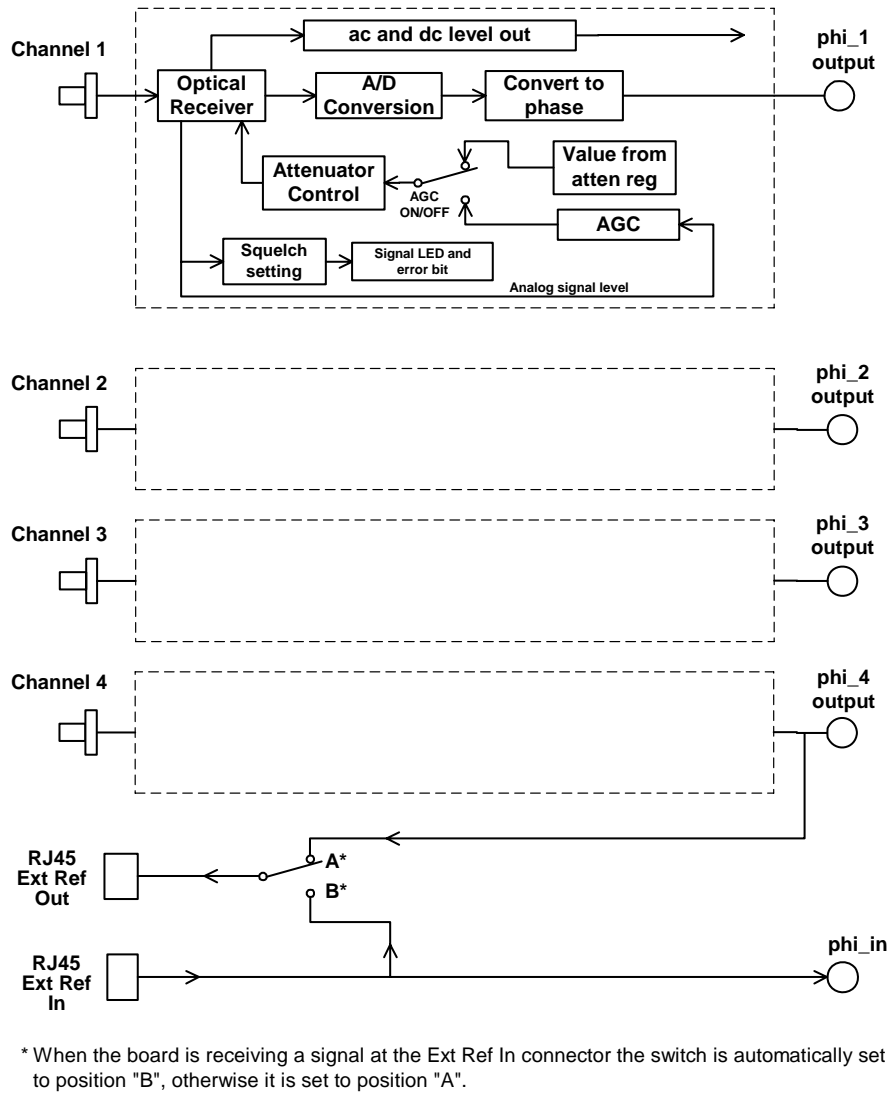
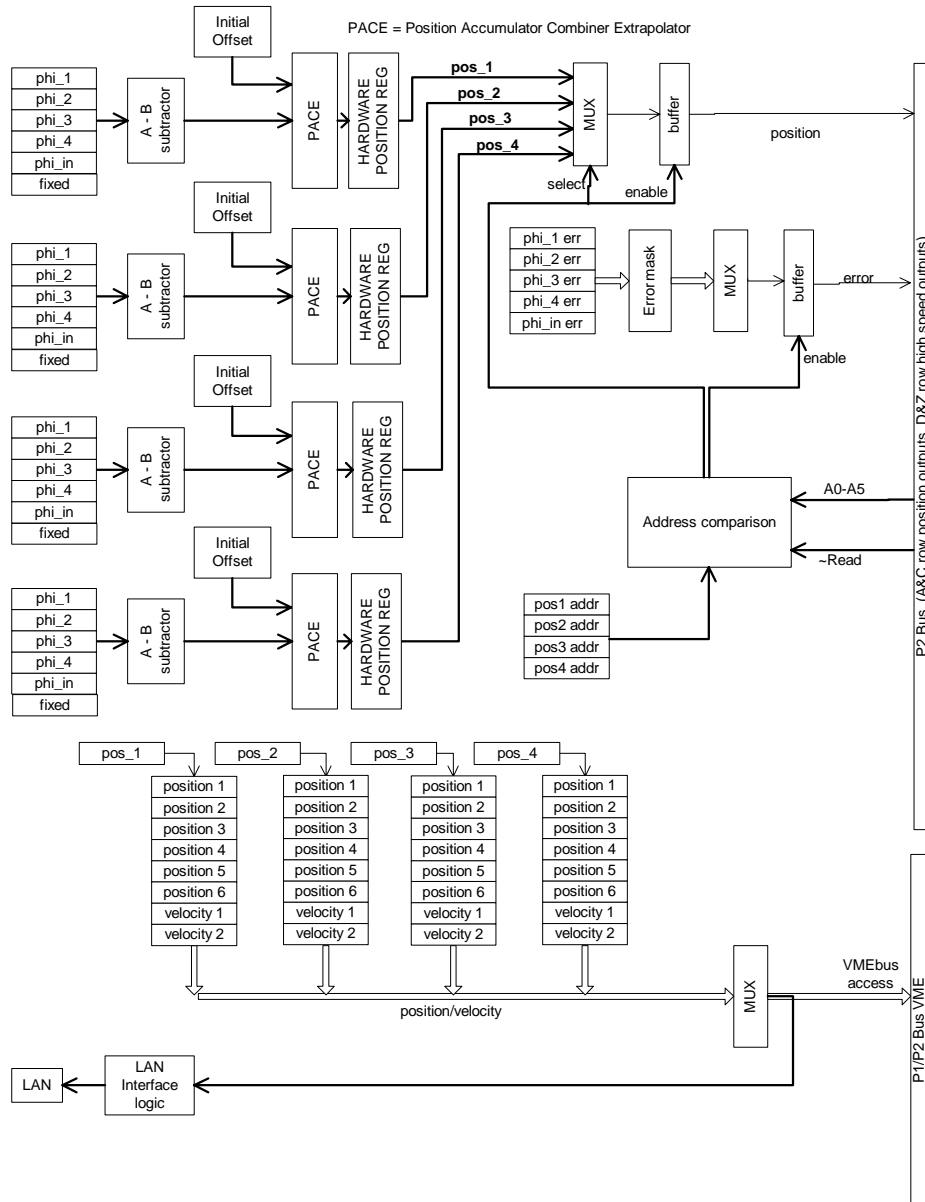

Figure 19 N1225A input circuit block diagram
Figure 20 Data flow and measurement path
Figure 19 shows the signal path starting at the front panel ST connector. Light is channeled from the optical portions of the measurement system into a fiber optic attached to the ST connector. The optical receiver contains a photo diode to first convert light into a current, then convert it to a voltage in the first stage amplifier. After additional gain stages, the analog voltage is digitized and processed using an Agilent proprietary algorithm to create a phase word for the respective channel. For channel 1, the phase is called **phi_1**. The optical receiver separates the ac and dc components of the input signal. These components are digitized and appear in the channel AC and DC strength registers. The input circuits include an automatic gain control (AGC) which is on by default, and a squelch control. The AGC can be turned off, and the gain controlled using the gain and squelch setting register. On the laser axis board front panel, the first stage optical receiver output is observable by plugging in a 3.2 mm high impedance (10 MHz) probe. This signal can be useful in checking and optimizing the optical alignment.
Figure 20 is a continuation of the previous block diagram, Figure 19. From the left, phase words from the four optical channels, **phi_in**, and **fixed** are routed to the A-B subtractor block. Phi_1 through phi_4 are from optical channels 1 through 4. Phi_in would come from an adjacent board, through the reference passing cable. The fixed phase value, **fixed**, is for testing purposes when no other signals are available.
- The value of the hardware position register (position) can be stored to one or more position registers, shown at the bottom of Figure 20, for each axis by writing to the command register or by toggling the hardware sample lines either externally or using the command register.